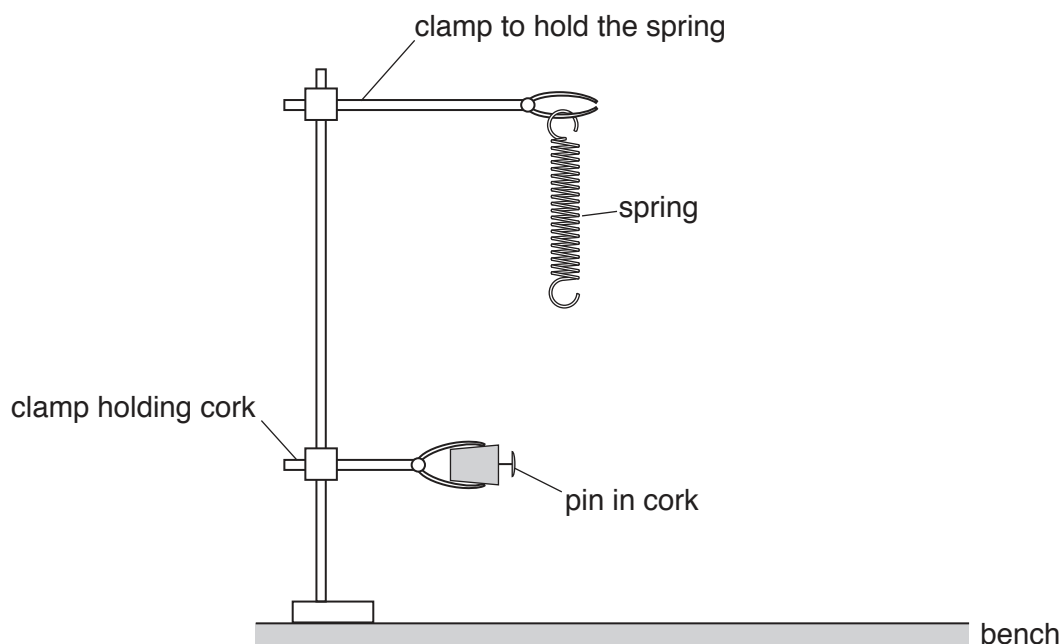

Fig. 1.1
3. The apparatus is to be set up as shown in Fig. 1.1.
Check that the apparatus is set up ready for the next candidate, as shown in Fig. 1.1. Replace the spring if it has been overstretched.